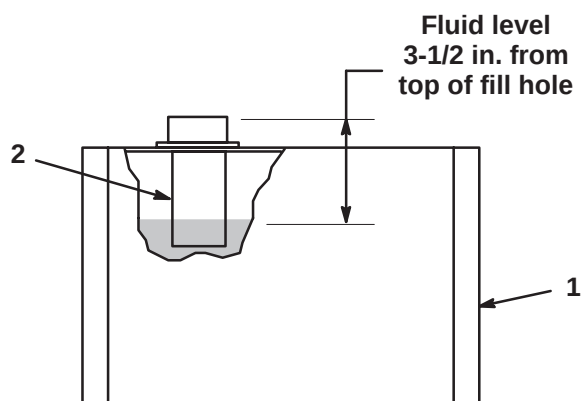

Figure 17
2. Remove the cap from the top of the reservoir and check the fluid level. The fluid should be approximately 3-1/2 in. (89 mm) below the top of the fill hole (Fig. 17).